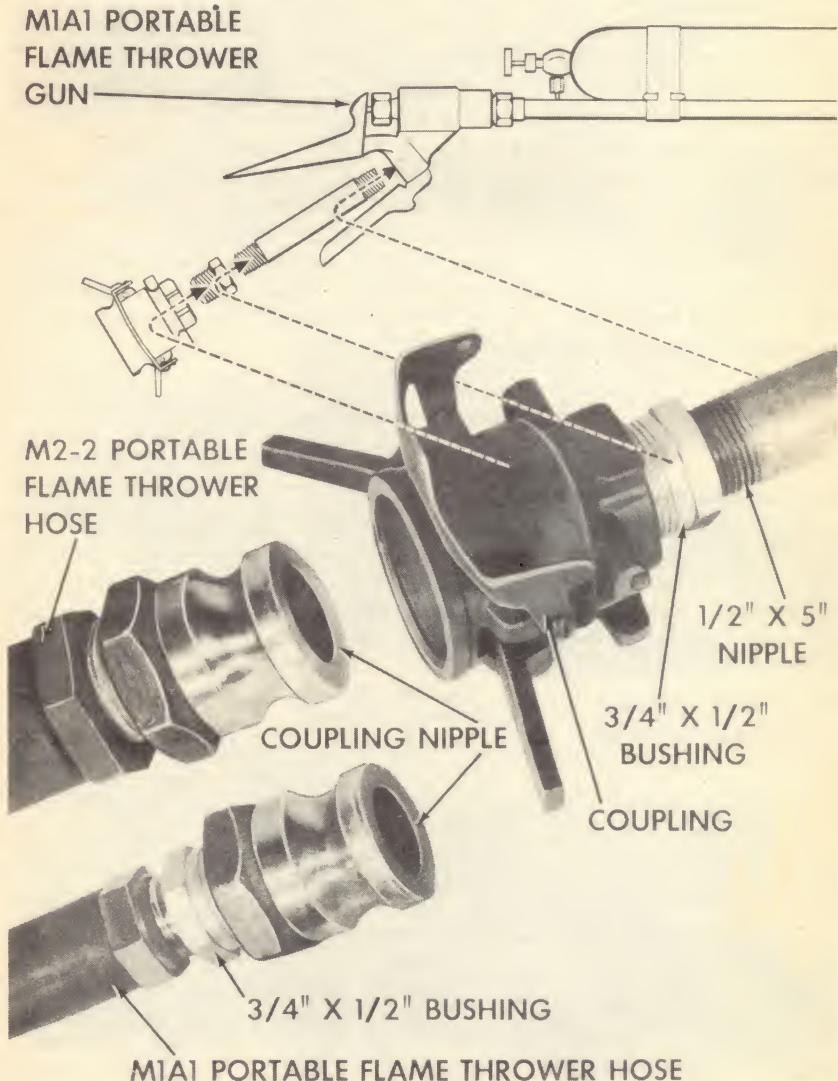

Fig. 9. Gun of M1A1 portable flame thrower adapted for hose.
c. Adapting M1A1 portable flame throwers. To prepare an M1A1 portable flame thrower gun so it may be used with the manifold assembly as well as for usual use as a portable flame thrower gun (fig. 9), proceed as in subparagraph (1) or (2) below:
- (1) Using fuel hose from M1A1 portable flame throwers.